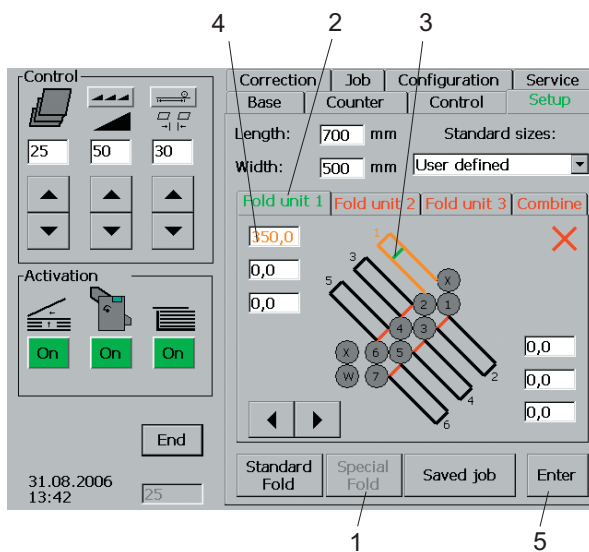

Fig. 23 Special fold
Activate this mode of operation by touching the „Special Fold“ key (Fig. 23/1).
1. Select the desired fold unit (Fig. 23/2) and touch the appropriate key (script colour changes).
2. Touch the fold plate (Fig. 23/3) to be set (fold plate and numbers in the input window turn orange).
3. Touch the input window (Fig. 23/4). A numerical keyboard pops up.
7. Touch the *Enter* key (Fig. 23/5) when the settings in all fold plates have been completed. This activates the automatic setting of the fold length in all fold plates.